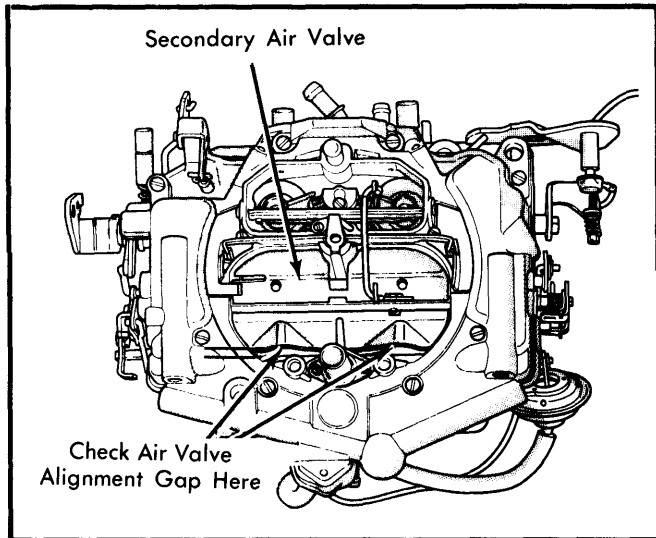

Fig. 4 Checking Secondary Air Valve Alignment
1) Observe carburetor from directly above. See Fig. 4.
2) Carefully remove idle limiter caps. To remove idle mixture screw plugs, drill a $\frac{5}{64}$ " pilot hole at a 45° angle toward plugs. Redrill hole to $\frac{1}{8}$ ". Drive plugs out with blunt punch. Remove idle mixture screws and springs. See Fig. 4.